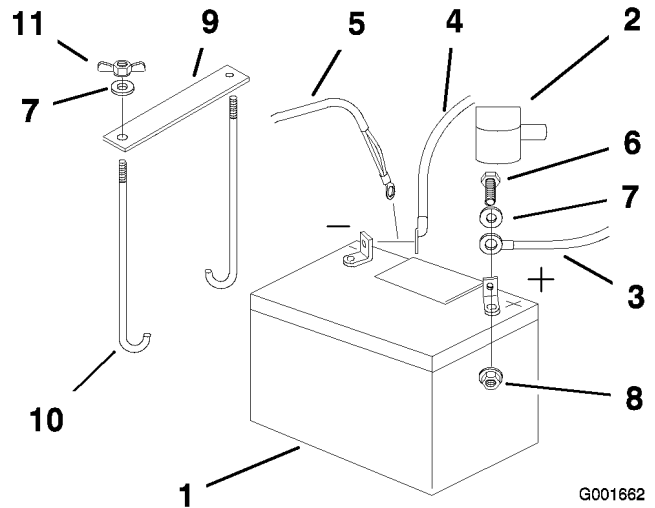

Figure 37
4. First disconnect the negative battery cable and ground wire from the negative (-) battery terminal (Figure 37).
5. Slide the red terminal boot off the positive (red) battery terminal. Then remove the positive (red) battery cable (Figure 37).
6. Remove both wing nuts (1/4 inch) securing the battery clamp (Figure 37).
1. Position battery in the tray with the terminal posts toward the engine (Figure 37).
4. Secure the cables with 2 bolts (1/4 x 3/4 inch), 2 washers (1/4 inch), and 2 locknuts (1/4 inch) (Figure 37).
6. Secure battery with J-bolts, hold down clamp and 2 washers (1/4 inch), and 2 wing nuts (1/4 inch) (Figure 37).